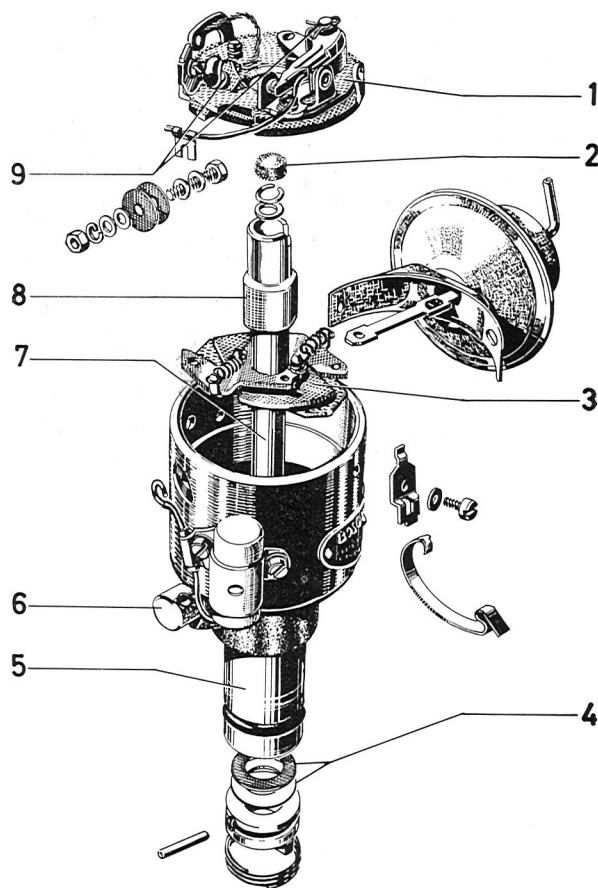

Fig. 3-102. Distributor lubrication
1. Lubricate the distributor parts according to the instructions in Fig. 3-102.
- Lubricate the distributor according to the instructions in Fig. 3-102.